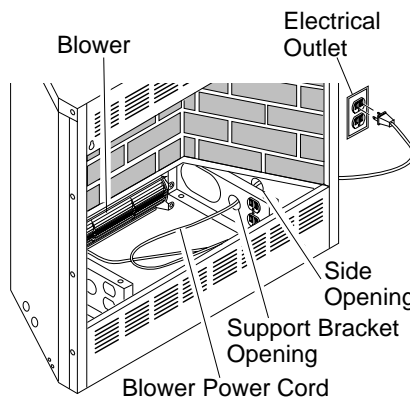

Figure 8 - Routing Blower Accessory Power Cord for Cabinet Mantel Installation
2. Before replacing bottom of firebox, route blower power cord through hole in support bracket in bottom of firebox and through hole in side of firebox to grounded, three-prong 120 volt electrical outlet (see Figure 8). Plug electrical cord into outlet.